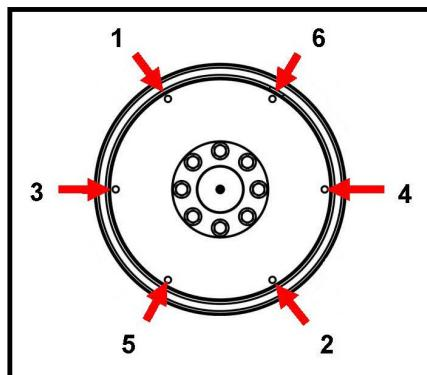

FIGURE 22. FIXING SEQUENCE
10. Tighten the bolts to fix the coupling disc to the flywheel in the sequence shown in Figure 22 on page 39.